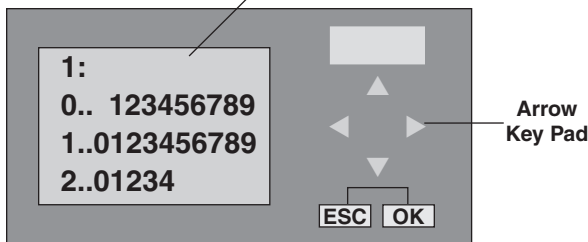

Fig. 1
1. Turn on the power to the machine but do not press the start switch. Remove the front panel and then the control panel cover. Note: Use extreme caution when reaching into the control box, the machine has live power. Once powered the Smart Relay window will display the following screen, see figure 1 (if screen does not appear press the left/right arrow keys ◀ or ▶ until correct screen appears).